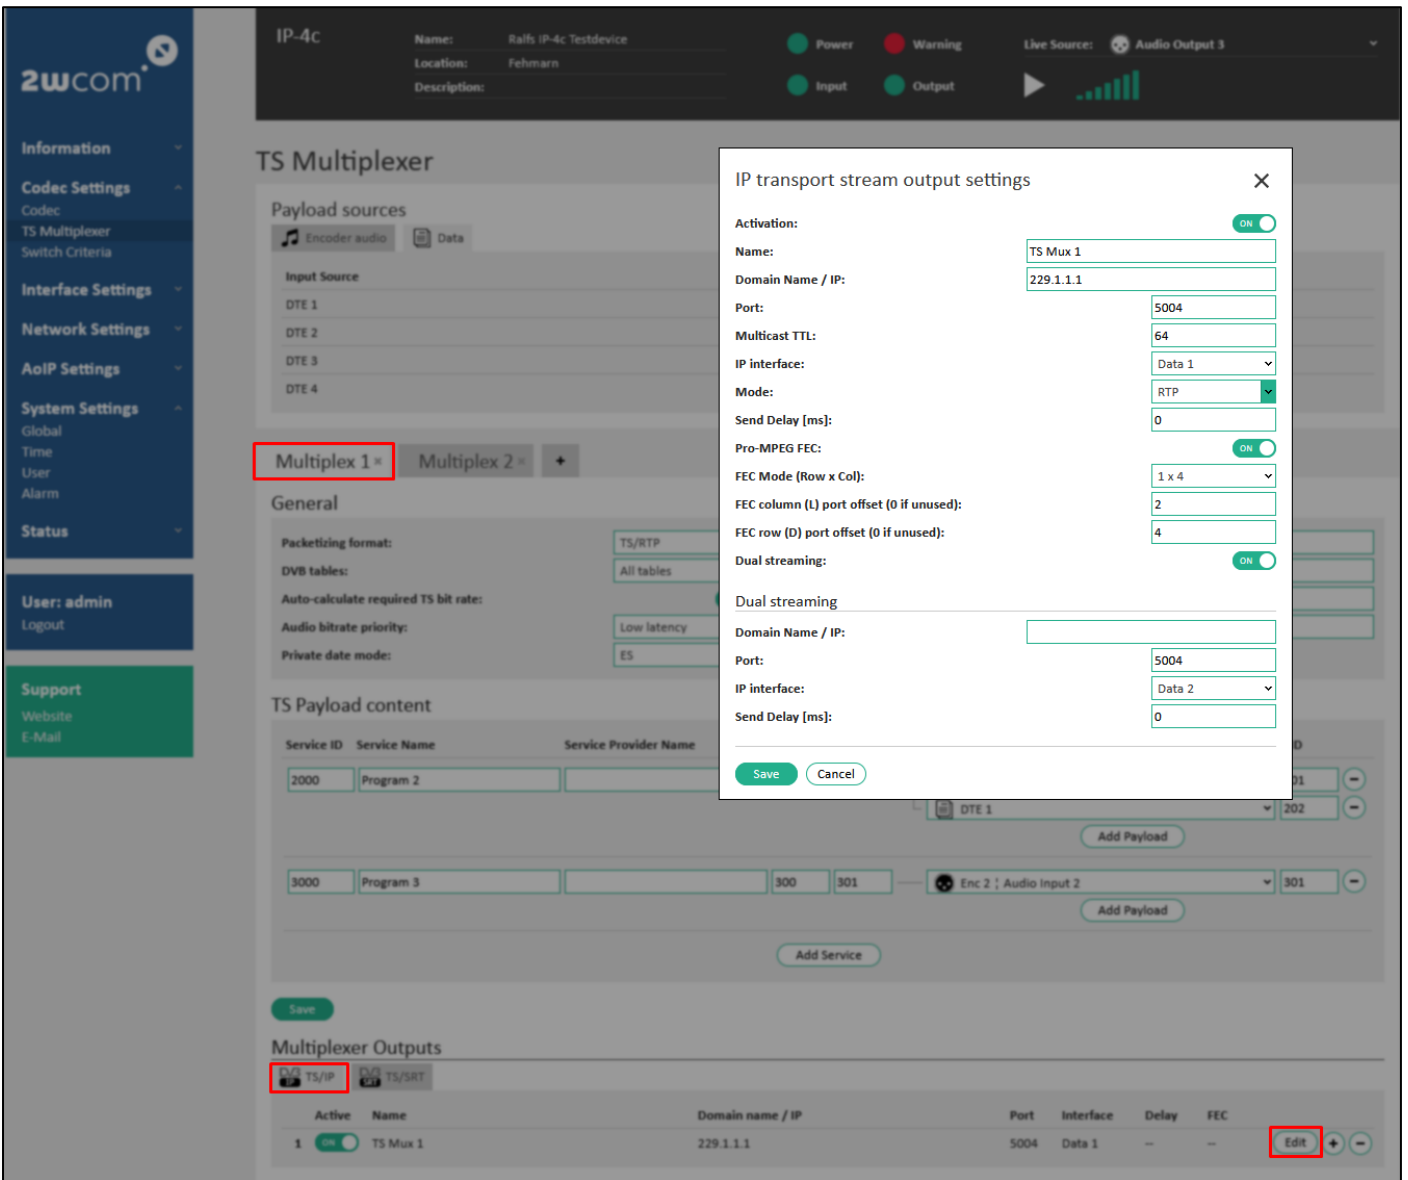

Figure 30: Edit output TS/IP
5. Enter the following data in the fields of the configuration of one **TS/IP** destination in the “Edit” menu of the “TS/IP” tab (see Figure 30):